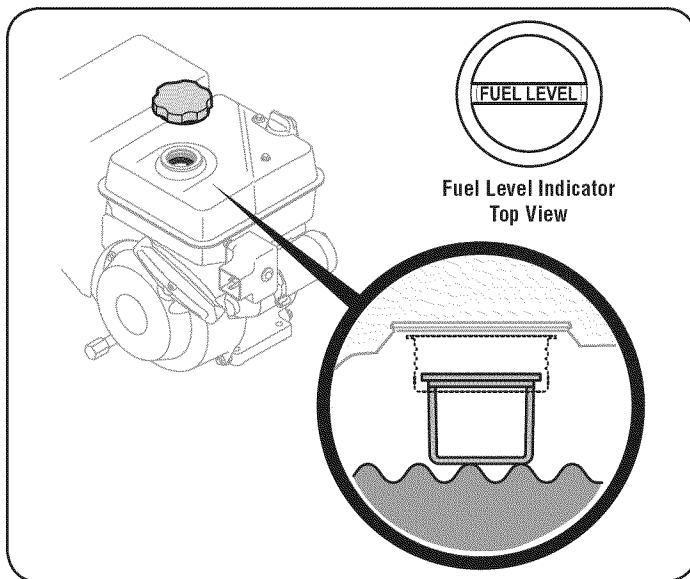

Figure 6
2. A fuel level indicator is located in the fuel tank. Fill tank until fuel reaches the fuel level indicator, Figure 6. Be careful not to overfill.